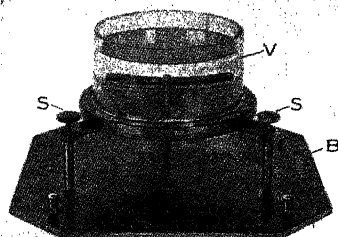

FIG. 45.—Compass-card balancing stand.
A card balancing stand is seen in Fig. 45. It has a base *B* and a glass vessel *V*, with three screws *S* for leveling. In the vessel is a jeweled pivot post on which compass magnetic units may be placed for balancing.
**Balancing the Magnetic Unit.**—After making the magnets stronger, the magnetic unit is to be balanced in liquid. Put it on the pivot post of the balance stand (Fig. 45). If the card is not in balance within the limit given in Table 7, put a small amount of solder on the high ends of the magnets. Do this with a soldering iron which is no hotter than necessary. Be certain